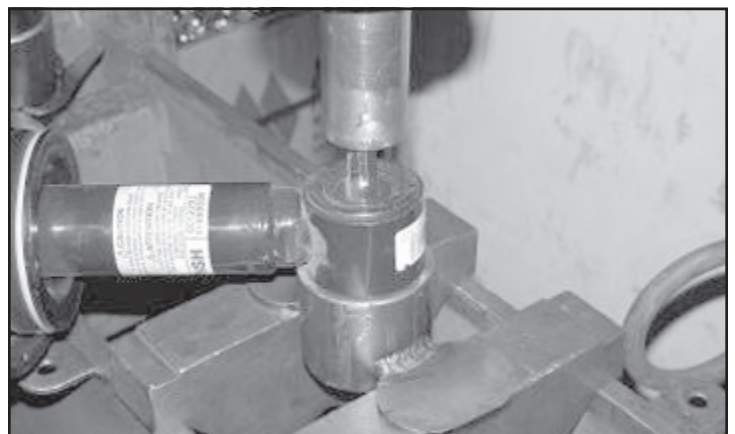

**FIGURE 30 - STEP 26**
26. Locate FT20304 Skid Plate and the supplied 1/2" x 1-1/4" hardware and attach the rear of the skid plate to the bottom of the rear crossmember. Use the supplied 7/16" x 1 1/4" hardware and attach the front of the skid plate to the front crossmember (**MAKE SURE THAT THE DIFF IS CLEARED ENOUGH TO CLEAR THE SKID PLATE**). **SEE FIGURE 30**